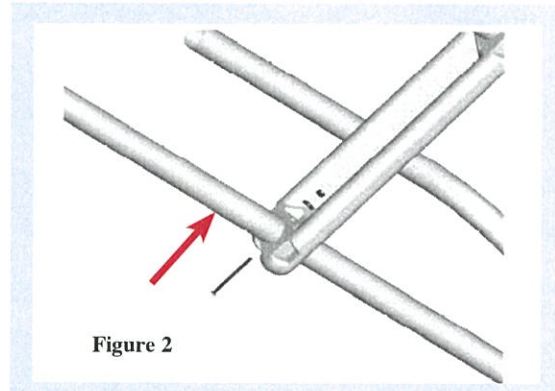

Figure 2
- Secure step to handrail with a bolt and nut out of hardware bag (BS 698HDWR). Make sure that the head of the bolt is located on the outside of the step. (See figure 2)